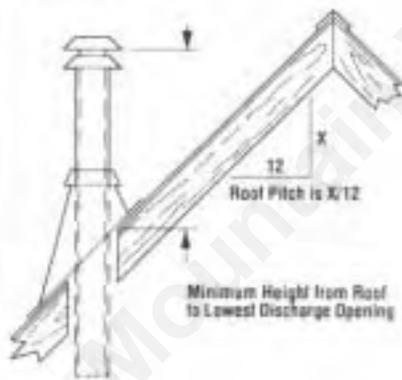

Figure 10
**Gas Vent Rule** – Gas vent caps that are located 8' or more from a portion of a building which extends at an angle greater than 45° upward from the horizontal may terminate in accordance with Table 1 (Figure 10), provided that in no case shall any discharge opening on the cap be less than 2" (610 mm) horizontally from the roof surface.